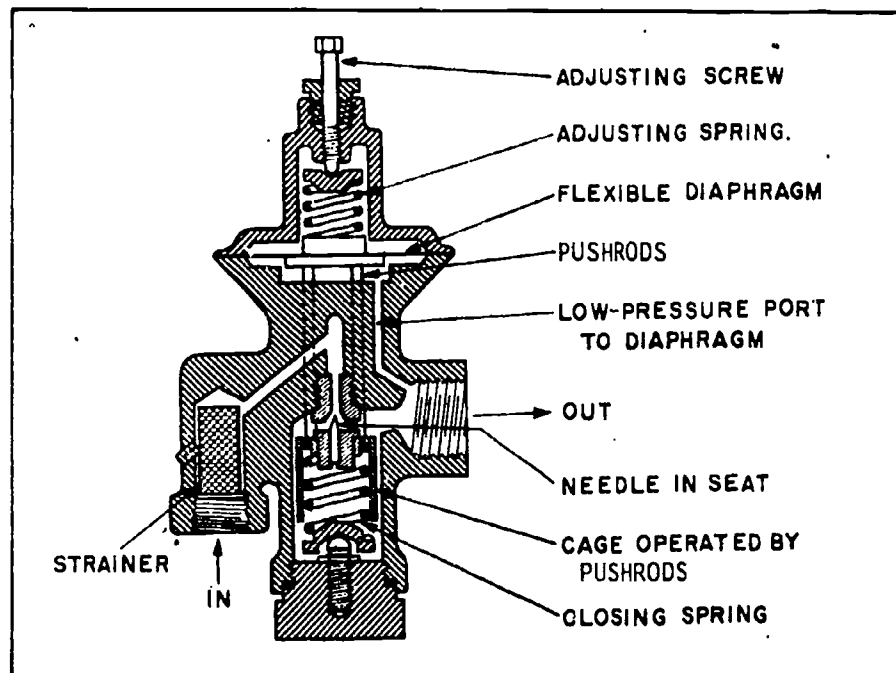

Fig 2-24. Cutaway view of an automatic-expansion valve.
- (1) Automatic-expansion valve (fig 2-24). An automatic-expansion valve consists of a needle valve actuated by spring tension and a bellows sensitive to refrigerant pressure. The refrigerant pressure and the spring tension are on opposite sides of the bellows and oppose each other. When the pressure is low, the spring forces the valve open. When the pressure rises, it overcomes the spring tension and the valve closes. Expansion valves are equipped with adjusting screws so that they can be set for the desired pressure. Because these valves are affected by atmospheric pressure, adjustment must be made at different altitudes and these valves must have the same capacity as the compressor. A valve that is too small would starve (not enough refrigerant) the evaporator and cause the compressor to overwork. A valve that is too large would allow too much refrigerant to enter the evaporator and cause the suction line to sweat or frost. It could even allow liquid refrigerant to enter the compressor and damage it.